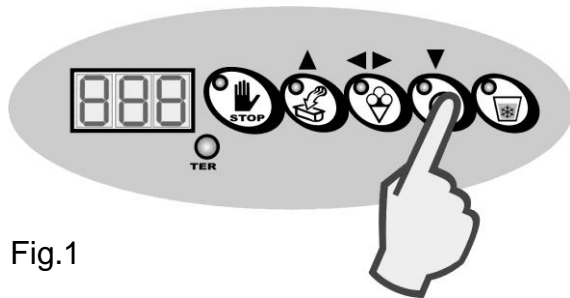

Fig.1
- Press the SEMI-AUTOMATIC TIME CYCLE key to select the semi-automatic batch freezing cycle with time control (fig. 1).